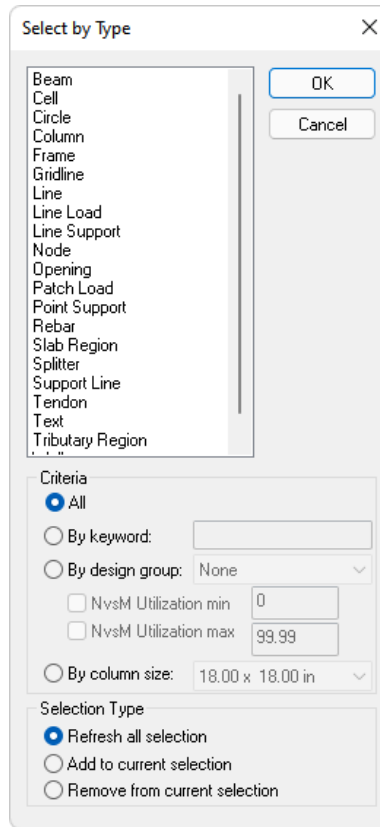

FIGURE 9-138
- Click on the **Select by Type**  icon located in the *Bottom Quick Access* toolbar. This will open the *Select by Type* dialog window as shown in **FIGURE 9-138**.